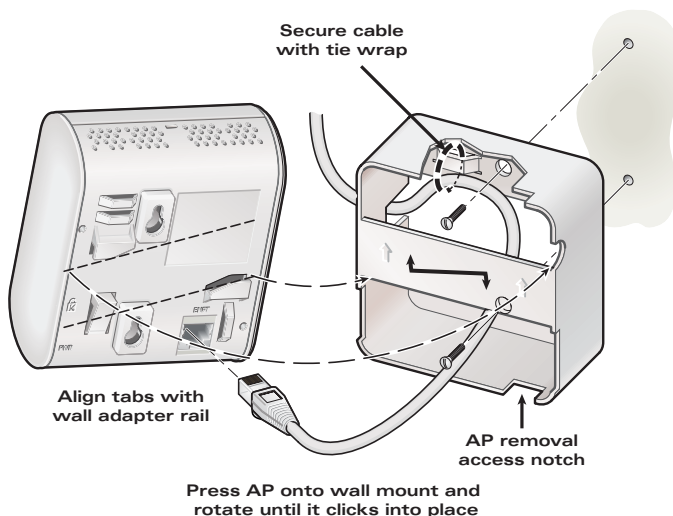

FIGURE 2 Installing AP Using the Wall Mount Standoff Adapter
1. With the cable tie slots at the upper left, screw the adapter onto the wall as shown in Figure 2.
4. Align the AP 65 at approximately a 30 degree angle to the adapter rail (see Figure 2).